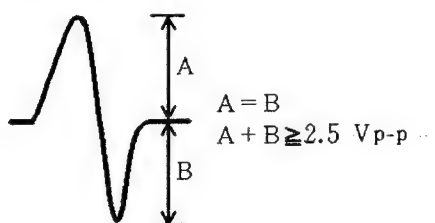

Figure 8
3. While watching the oscilloscope screen, press the TRACK FWD key and observe the wave form in Figure 8 for a moment. Verify that the amplitude is at least 2.5 Vp-p and that the positive and negative amplitude are about equal. Since the wave form is only output for a moment when the TRACK FWD key is pressed, press this key over and over until you have checked the wave form.